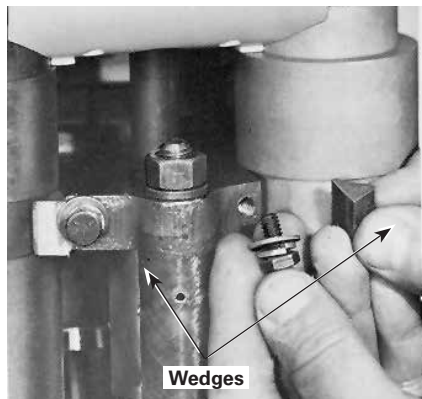

Figure 12. Removing contact-tube wedges
3. Remove the bronze cap screw and lockwasher from the end of each contact tube; remove the leads to each contact tube. Then remove cap screws, lock washers, and flat washers to release contact tube wedges shown in Figure 12.